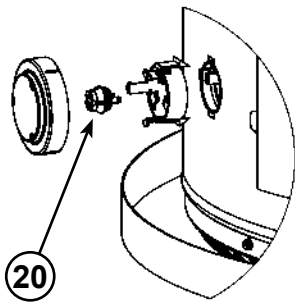

Figure 48
- 20 Flammable Vapour Sensor (under cover) (see Figure 5) (see also **Figure 48**)